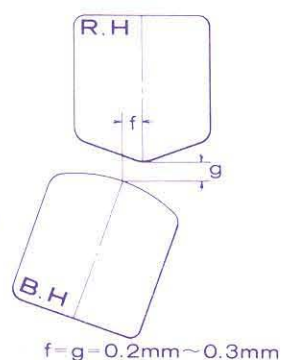

Fig. 5
- c) Clearance of the Bias Head (See Fig. 5)